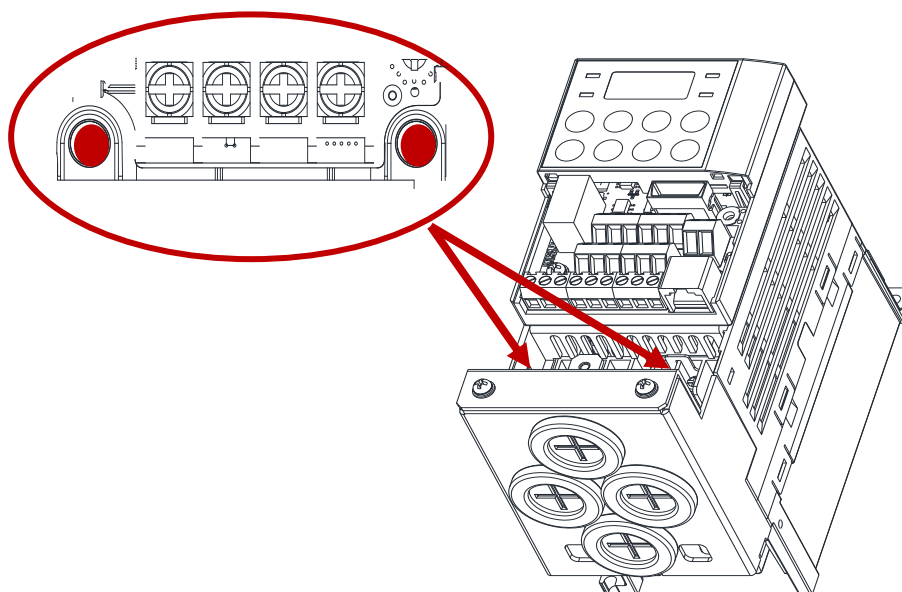

Figure 2. Installation - Front View
- ② Fasten the Conduit Box Option to the ground terminals at the specified locations as shown in the Figure 2.